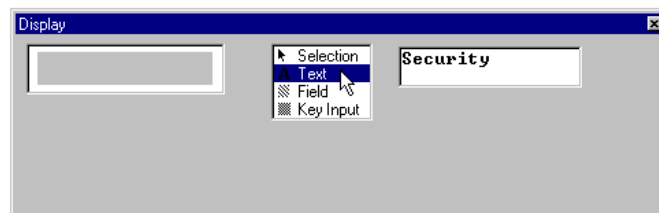

Figure 2-43 Display - Type Security
2. Type **Security**; the typed text is displayed in the edit box (Figure 2-43).